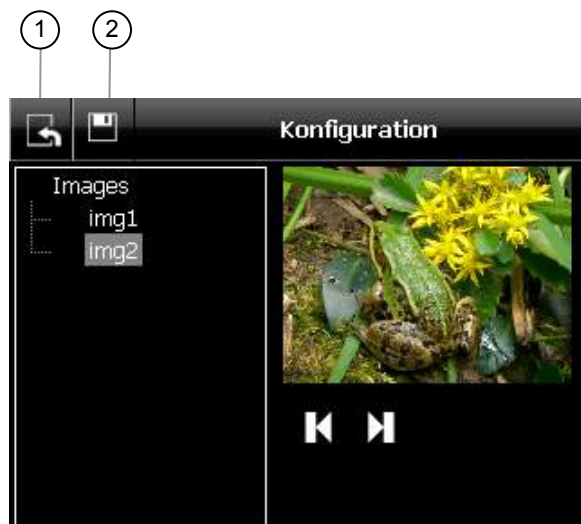

Figure 26: Logo/slide show configuration mode
Button (4) produces a switch to configuration mode for the logo / slide show (see figure 26).